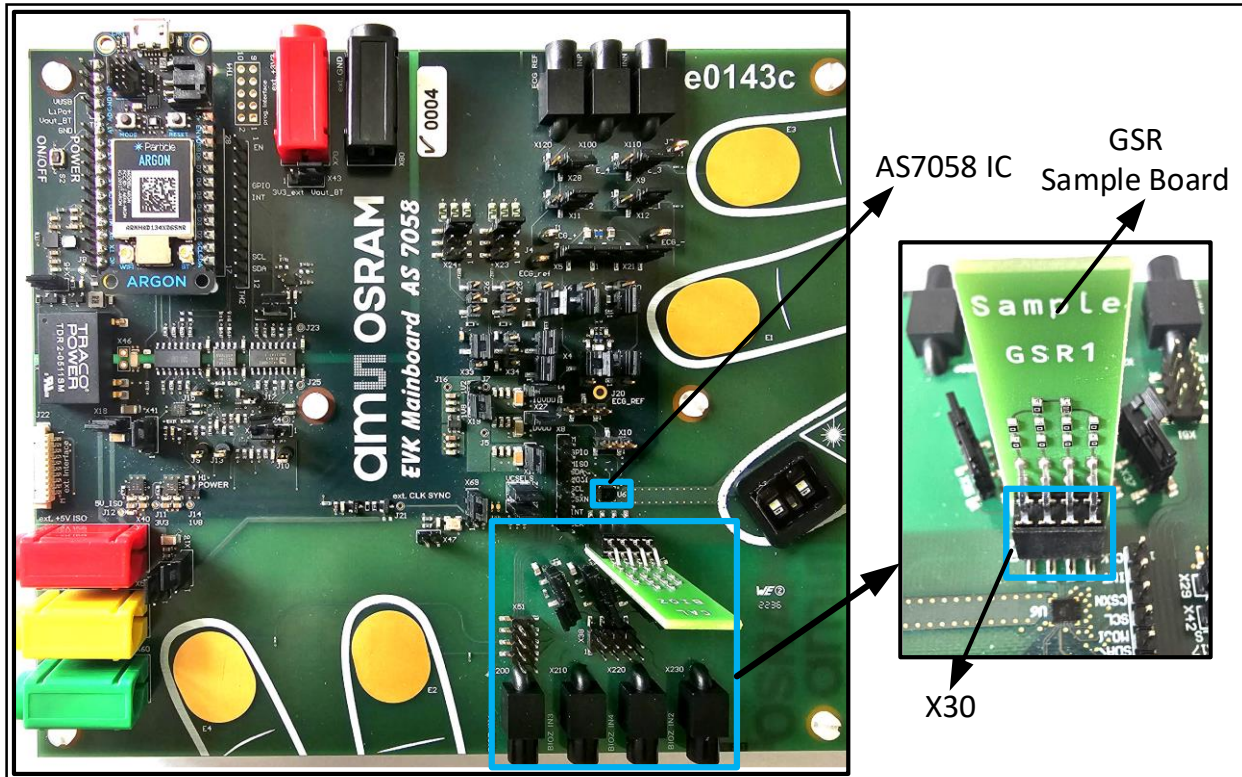

Fig. 21: EDA Measurement Steps
1. Connect the reference board to X30 (Fig. 21).
2. Then, connect the sample boards for EDA application to the X30 connector as shown in Fig. 21.